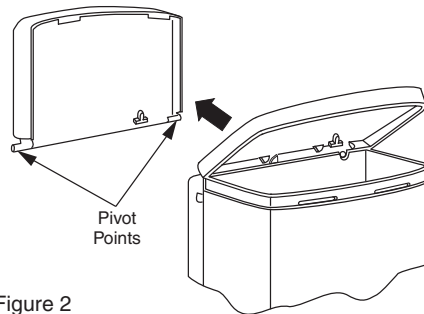

Figure 2
- Hold the lid vertical and slide its two pivot points (see Figure 2) into the upper left and right slots of the wall bracket. A click sound will be heard when the lid is properly in place.